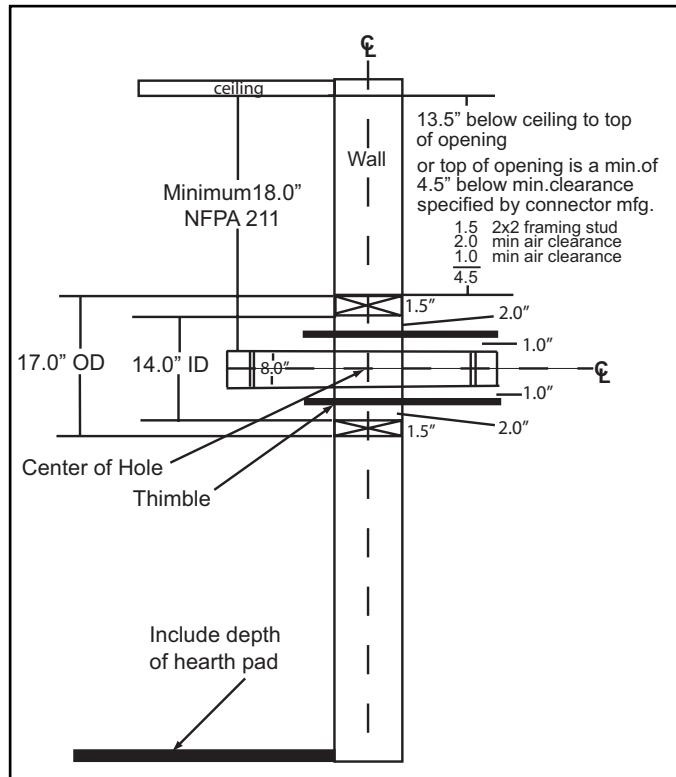

Figure 17.1
- Top of wall opening is a minimum of 13-1/2 inches (343mm) from ceiling or 4-1/2 inches (114mm) below minimum clearance specified by chimney connector manufacturer. NFPA 211 minimum vertical clearance of 18 inches (457mm) from chimney connector and ceiling or minimum recommended by chimney connector manufacturer. **Figure 17.1.**
- Open inside wall at proper height for the chimney connector to entry the masonry chimney. **Figure 17.1**
- Construct a 17 inch x 17 inch (432mm x 432mm) outside dimension frame from 2 x 2 framing lumber to fit into wall opening. Inside opening of frame should be no less than 14 inch x 14 inch (356mm x 356mm). **Figure 17.1.**